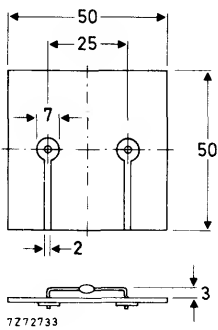

Fig.2 Mounted on a printed-circuit board.
- 2. Thermal resistance from junction to ambient when mounted on a 1.5 mm thick epoxy-glass printed-circuit board; Cu-thickness $\geq 40\text{ }\mu\text{m}$; Fig.2